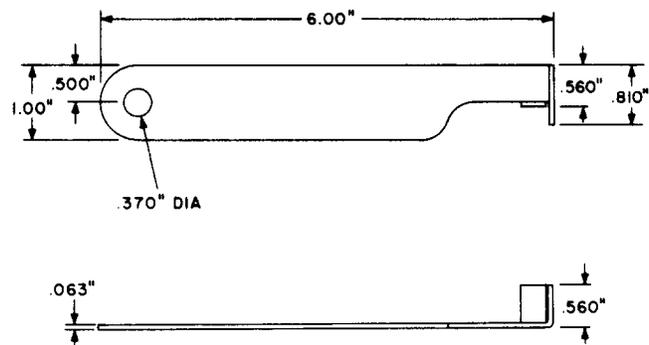

Fig. 6—825A Remover Tool
2.06 **825A:** The 825A tool (Fig. 6) is a remover used for removing 4A Crossbar miniature wire-spring relay trunk circuits from their connectors.